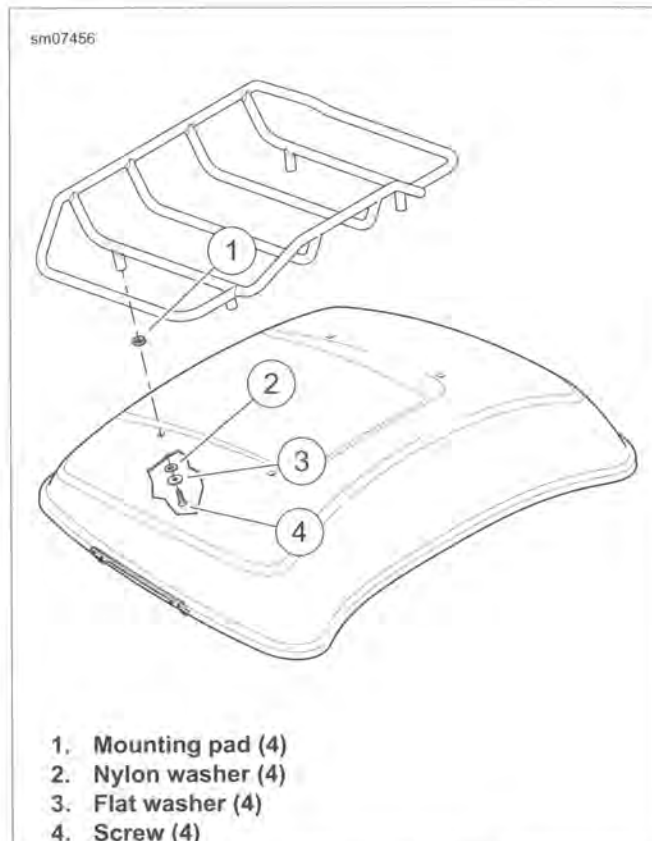

Figure 2-126. Luggage Rack
1. See Figure 2-126. Hold the luggage rack while removing screws (4) and washers (2, 3).
3. Hold the luggage rack in place with mounting pads (1) between luggage rack and lid.